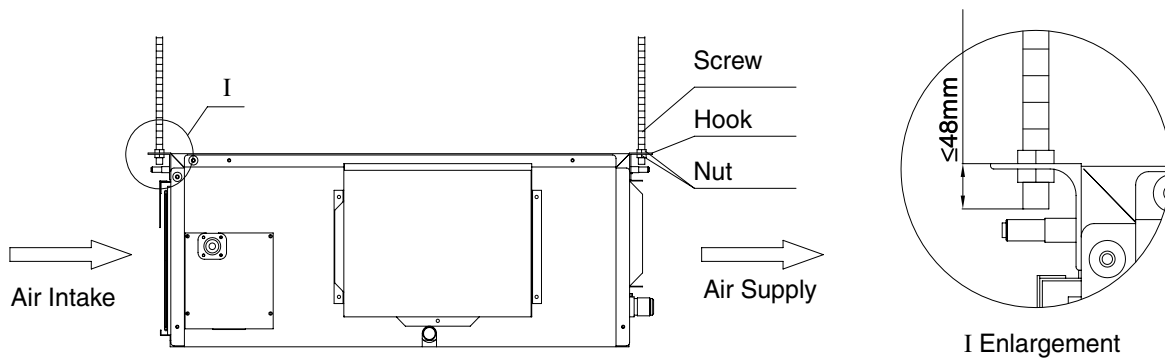

Fig.9.3
- (3) Install the indoor unit at the ceiling as Fig. 9.3 shows.